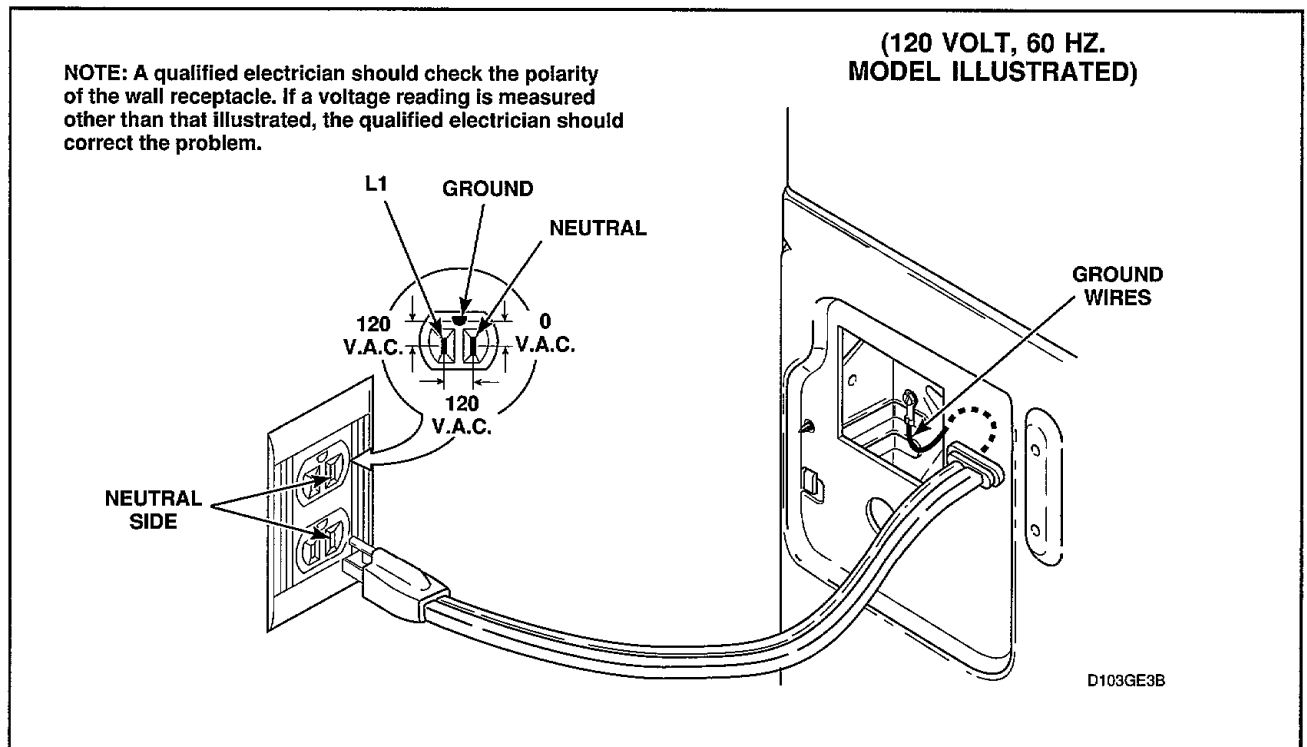

Figure 45
- (1) Remove access plate on rear of cabinet.
- (2) Remove strain relief.
- (3) Remove screw holding power cord ground wire to rear bulkhead, *Figure 45*.